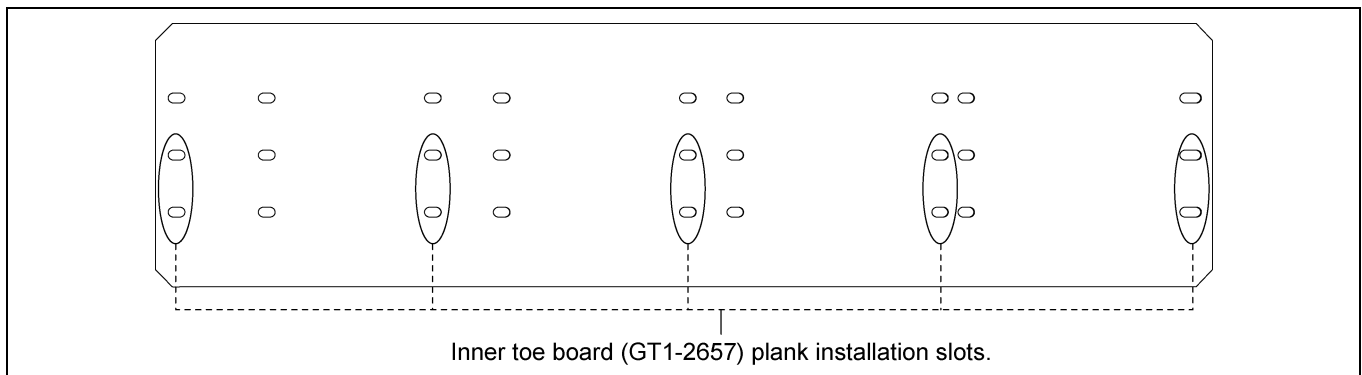

Figure 4K 23'-4" Inner Toe Board (GT1-2657)
3. Inner toe board (GT1-2657) is arranged with many slots to install plank. Install planks to corresponding slots as shown in Figure 4K.